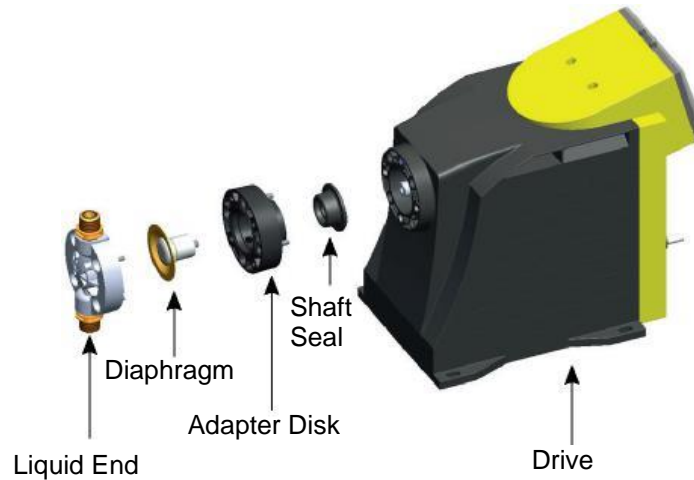

Figure 29: Pump Assembly
4. Once the pump head has been flushed, remove the foot valve or suction tube from the solution and continue to pump air into the pump head until the pump head is purged of water or neutralizing solution (Figure 29).